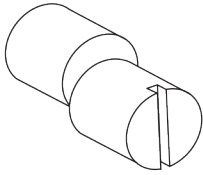

figure 4
**Method 1** Off-set dowel pins are the preferred method. (see figure 4)